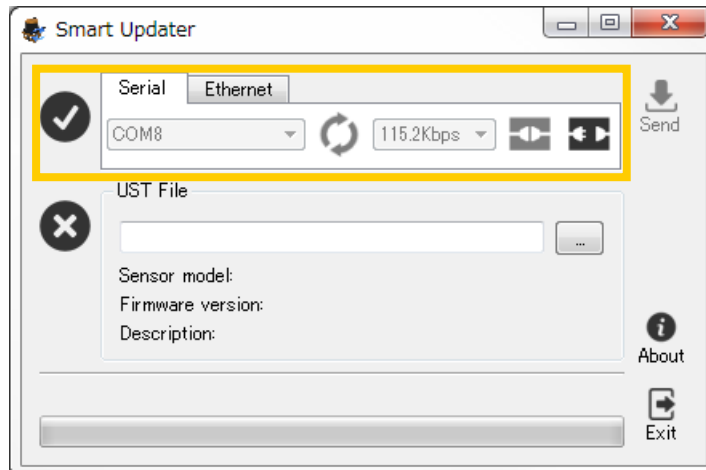

Fig B.2.3-2 Window of Smart Updater connection established
1. Confirm that the sensor is connected and click [connect]. When the connection is established, the display will change as in illustrated in Fig. B.2.3-2 and the icon on the left side that indicates the processing status will change from to .